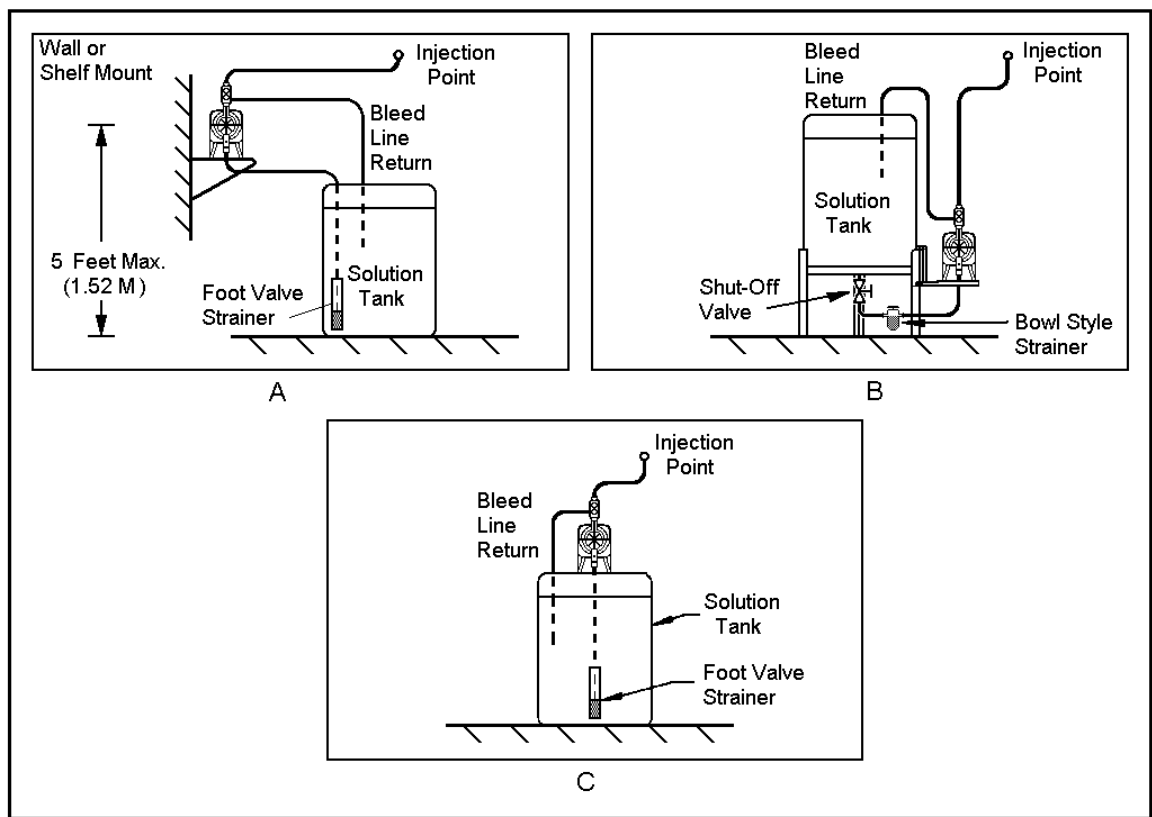
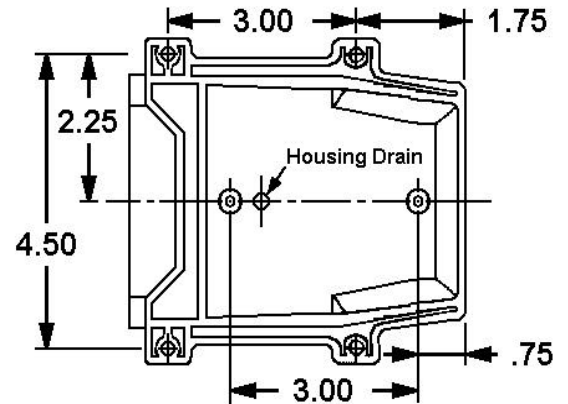

Figure 2
Figure 3
- □ Text that has been formatted ***bold*** and *italicized* (e.g., ***Figure 2-C***) indicates reference text.
Typical mounting arrangements are shown in *Figures 2-A, 2-B, & 2-C*.
1. For wall or shelf mounting refer to *Figure 2-A*. Connect suction tubing to the suction valve of the chemical pump. (The suction valve is the lower valve.) The tubing should be long enough that the foot valve/ strainer assembly hangs about 2-3 inches above the bottom of the chemical (solution) tank. To keep the chemical from being contaminated, the tank should have a cover.
2. Flooded suction mounting (installing the pump at the base of the solution storage tank, *Figure 2-B*) is the most trouble free type of installation and is recommended for very low output requirements. Since the suction tubing is filled with chemical, priming is accomplished quickly and the chance of losing the prime is reduced.
To mount the pump, drill 4 holes of 1/4" diameter in the shelf as shown in the dimension drawing (*Figure 3*). Attach the pump securely using four #10 bolts, nuts and lock washers.
3. The pump can be mounted to a wall as shown in *Figure 2-A*. A wall mount bracket kit is available which includes all necessary hardware to mount the pump to the bracket and the bracket to the wall. Mounting dimensions for the pump are provided in *Figure 3*.
4. The pump can be mounted on top of a solution tank as shown in *Figure 2-C*. Install the chemical pump on the cover. Insert suction tubing through the center hole and cut the tubing so that the foot valve/strainer hangs about 2-3 inches above the bottom of the tank. Mount the chemical pump rigidly by drilling four 1/4" holes and using four #10 bolts, nuts and lock washers.
6. To prevent clogging or check valve malfunction, always install a strainer assembly to the end of the suction tubing. (*Figure 2-C*). This foot valve/strainer assembly should always be installed 2 to 3 inches above the bottom of the chemical tank. This will help prevent clogging the strainer with any solids that may settle on the tank bottom. The chemical tank and foot valve/strainer should be cleaned regularly, to ensure continuous trouble operation. If the chemical being pumped regularly precipitates out of solution or does not dissolve easily or completely (e.g. calcium hydroxide), a mixer should be used in the chemical tank. These are available in many motor configurations and mountings. To obtain a mixer, contact your supplier.